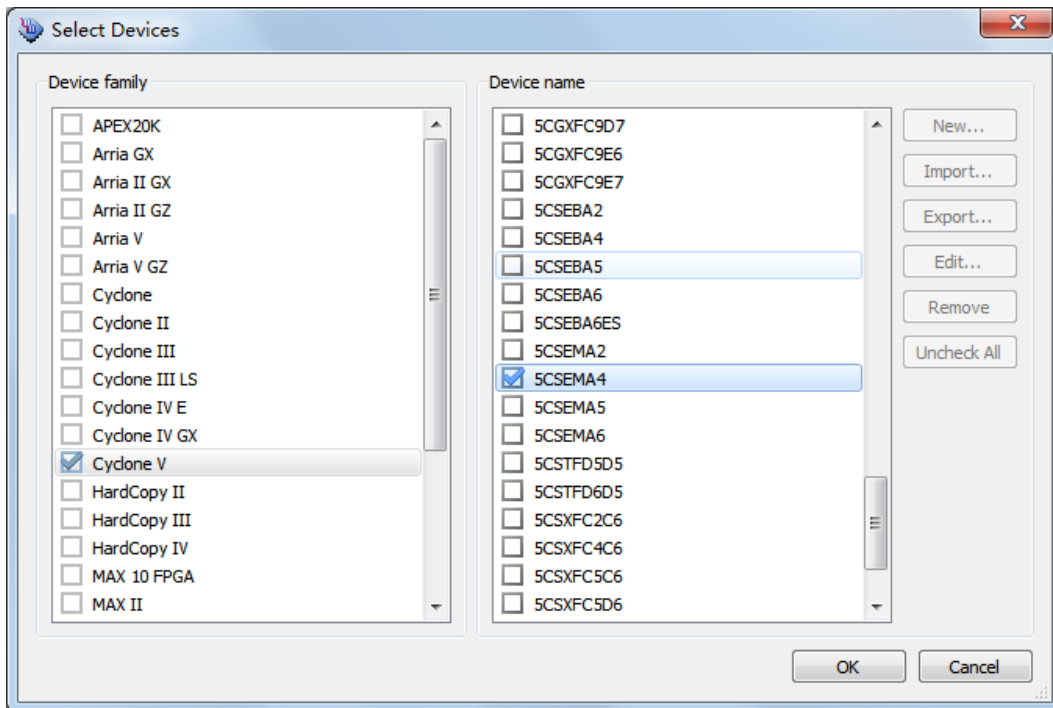

Figure 8-5 “Select Devices” page
12. Select the targeted FPGA to be programmed into the EPCS, as shown in **Figure 8-5**.